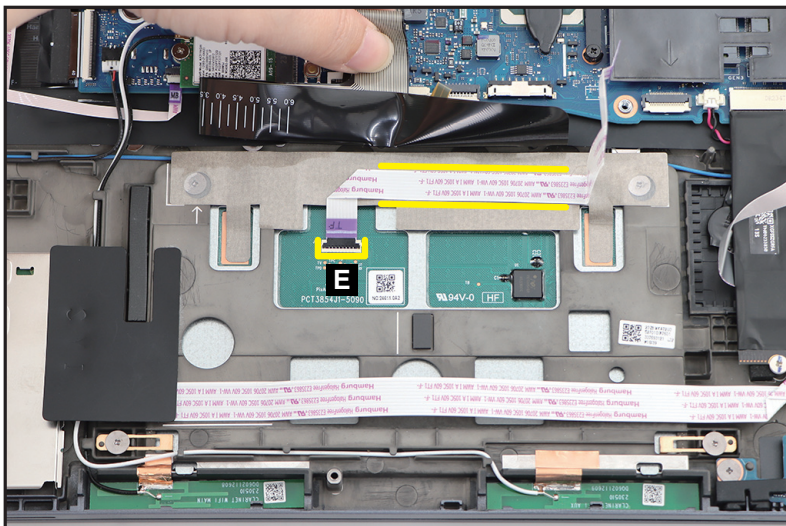

Figure 1-40. Touchpad Module Removal
4. Disconnect the touchpad FFC from the touchpad module connector (E). Then detach the middle portion (highlighted with the yellow lines) of the touchpad FFC from its underneath adhesive (Figure 1-40). Remove the FFC.